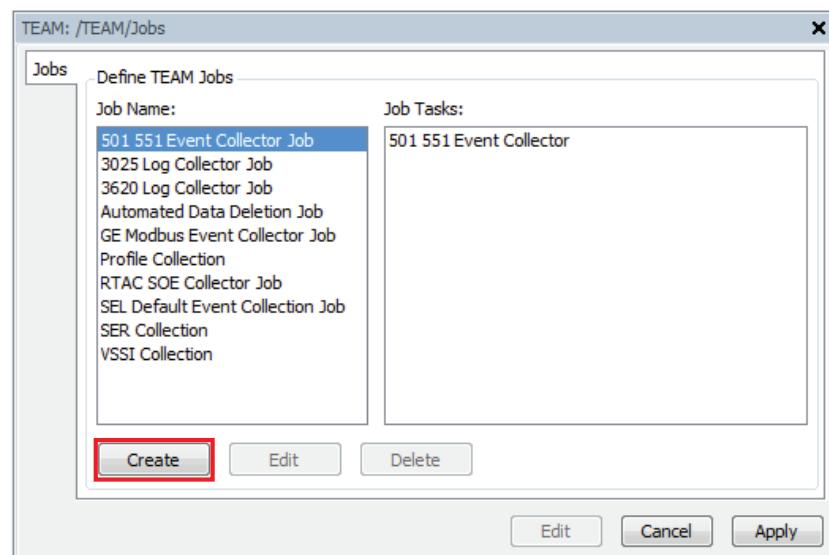

Figure 86 Create and Name New TEAM Job
- Step 2. Select **Edit** and then **Create** under the **Define TEAM Jobs** box, as shown in *Figure 86*, to display the **Jobs Wizard**.